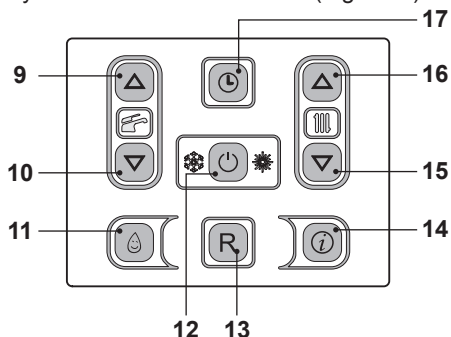

Fig. 2.11
Enter "programming mode" by holding down keys 16 and 17 for 5 seconds (Fig. 2.11).
Press keys 9 or 10 (Fig. 2.11) to select individual days 1, 2, 3, 4, 5, 6, 7, or if you want to select a group of days, hold down key 9 until groups (1-5) (1-6) (1-7) (6-7) are displayed (flashing), then confirm by pressing key 12.